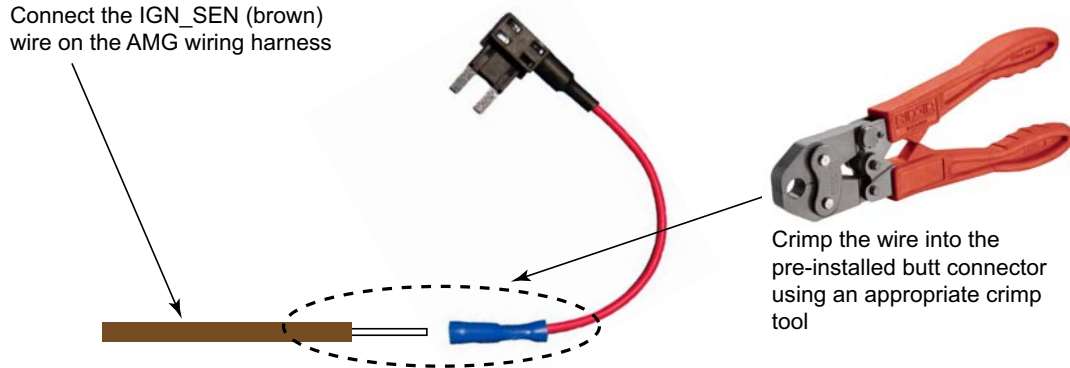

Figure 9: Connect IGN_SEN (Brown) Wire to Add-a-Circuit Device
- 4) Connect the **Ignition Sensor (IGN_SEN - brown)** wire on the AMG wiring harness to the "add-a-circuit" fuse holder (JHFUSE-14) included in the kit, using the pre-installed butt connector and an appropriate crimp tool as shown in **Figure 9**.